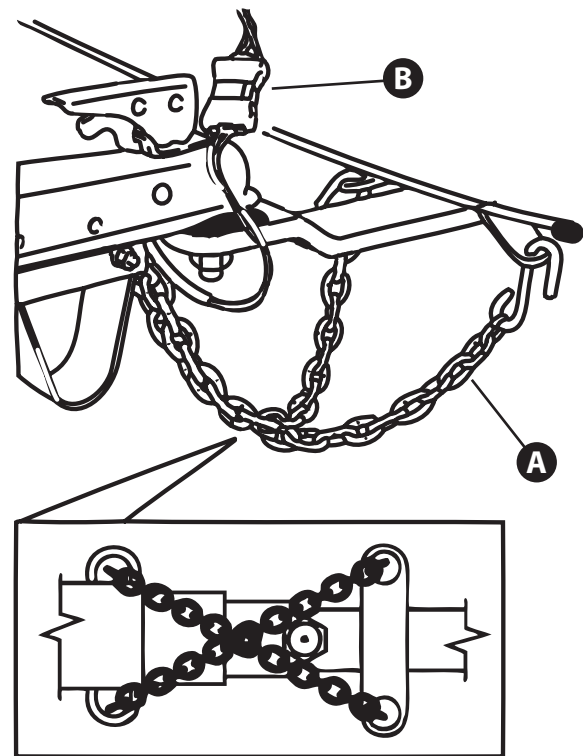

Figure 3.2
6. Attach the safety chains (A, Figure 3.2) to the tow vehicle's hitch frame. Cross the chains under the tongue as shown in Figure 3.2. Leave enough slack in the chains to allow for turns, but not so much that the chains will contact the road surface.
7. Connect the trailer lighting connector to the tow vehicle's connector (B, Figure 3.2). Make sure that the trailer lighting harness has adequate length to prevent disconnection when turning, but not so much length that the harness will contact the road surface. Check the stop, turn signal, tail, side marker and license plate lamps for proper operation.